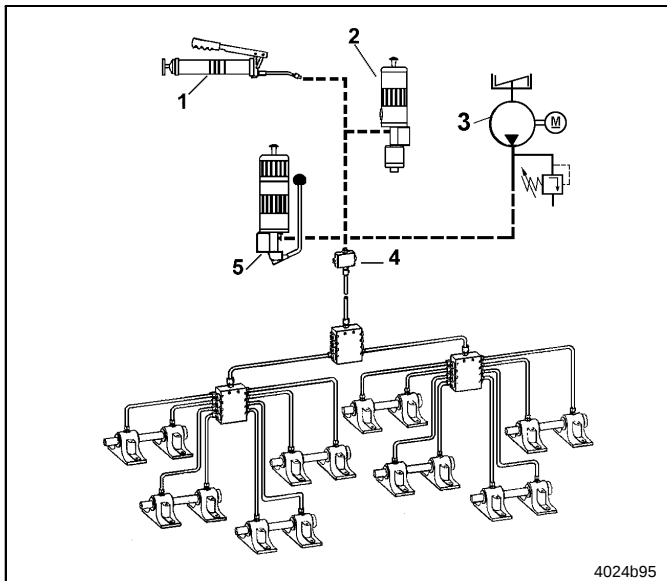

Fig. 50 Possible pump connections
- In combination with manual, pneumatical or electrical pumps, progressive metering devices provide simple centralized lubrication systems at a favorable price (see Fig. 50). When used with integrated control units, these centralized lubrication systems can be operated also automatically.